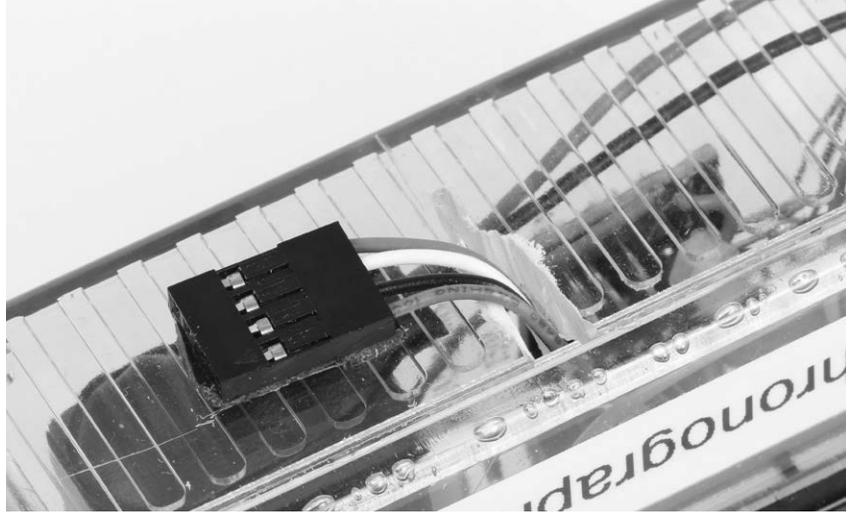

Figure 8-11: A slot in the enclosure for threading the four-pin sensor channel connector through. The connector is mounted with double-sided adhesive
3. Make a slot or hole in the side of the enclosure, and run the Pololu connector with the sensor channel connections through it (see Figure 8-11).